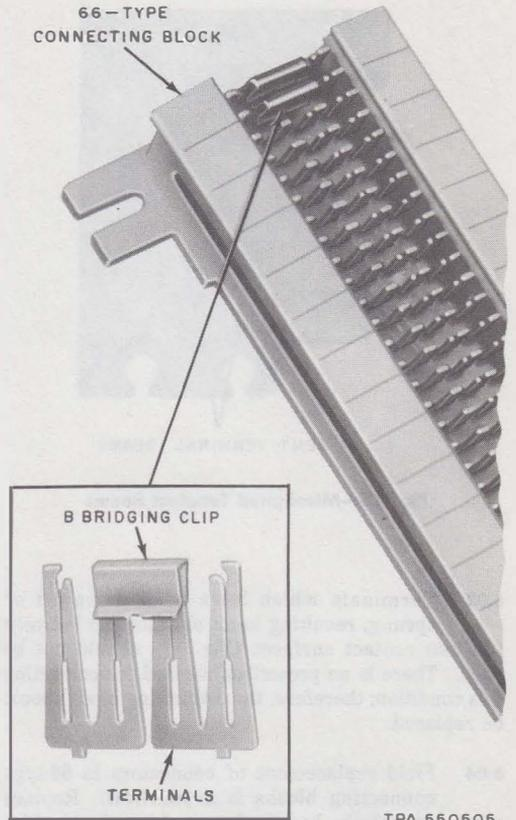

Fig. 14—B Bridging Clip, Installation Detail
5.01 The B bridging clip (Fig. 14) is a stainless steel spring clip used to electrically interconnect two adjacent terminals in the same row of 66-type connecting blocks, thereby increasing the multiplying capacity of the block.